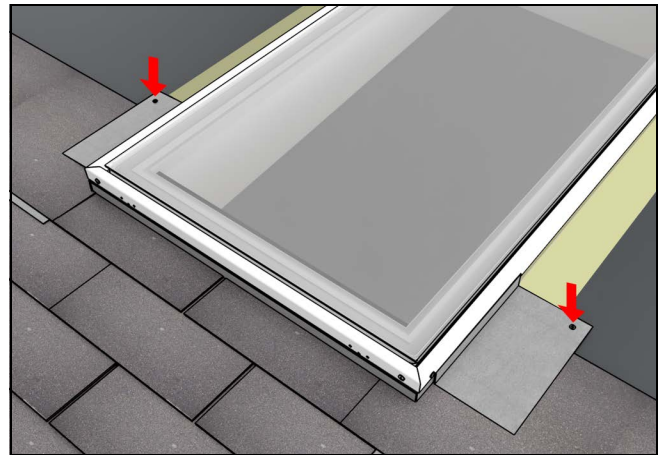
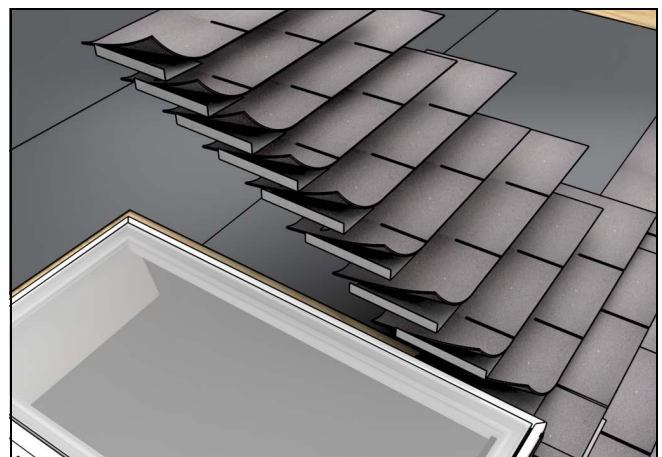

Figure 17
Figure 18
15. Place the second step flashing as shown in Figure 17. Align with bottom of shingle. Repeat steps until near the head jamb. See Figure 18.